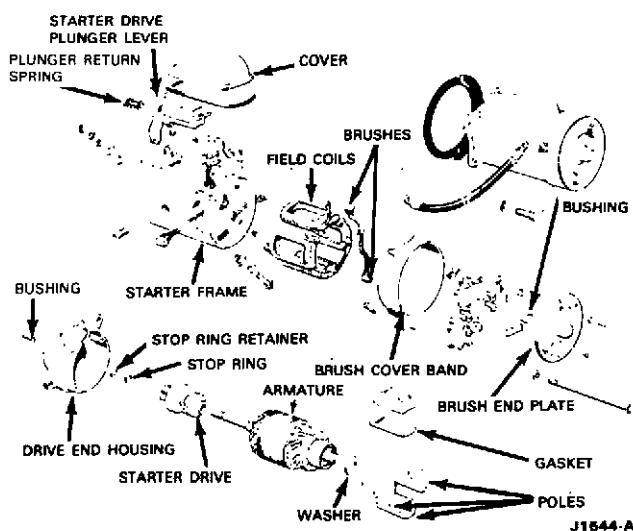

FIG. 8 Positive Engagement Starter Disassembled
Use the following procedure when it becomes necessary to completely overhaul the starter. Fig. 8 illustrates a disassembled starter.
1. Loosen and remove the brush cover band and the starter drive plunger lever cover (Fig. 8).
1. Install the new starter terminal, insulator, washers, and retaining nut in the frame (Fig. 8). Be sure to position the slot in the screw perpendicular to the frame end surface.